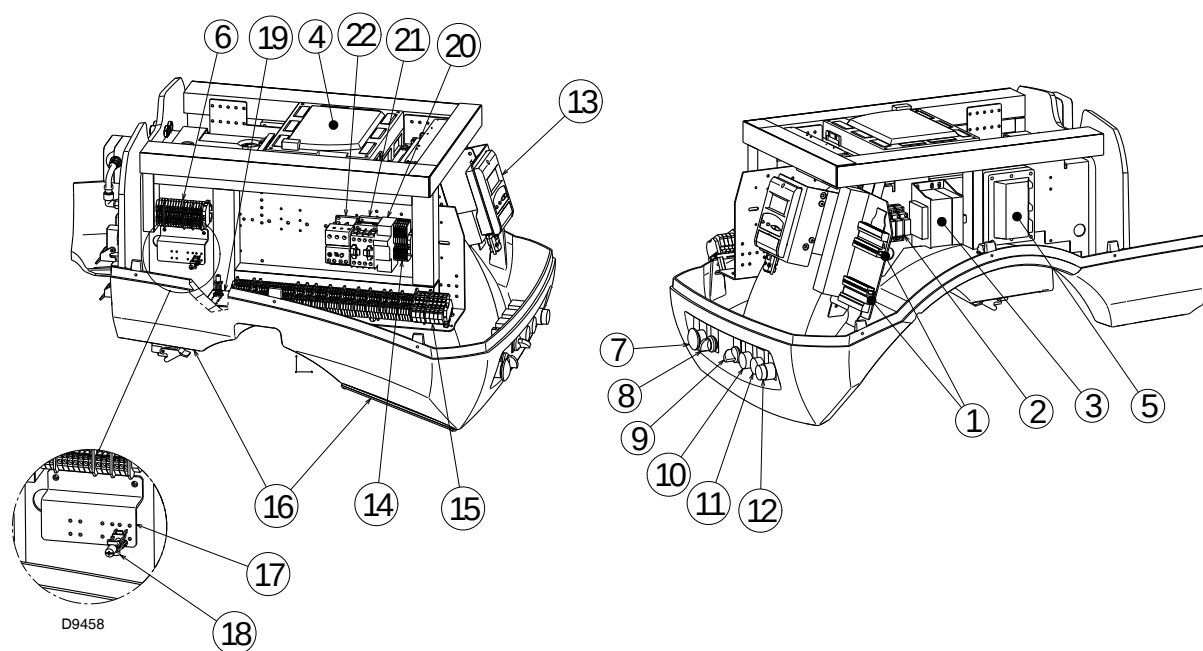

Fig. 6
- **Control box lock-out:** if the control box 12) (Fig. 6) push-button (red led) lights up, it indicates that the burner is in lock-out.
To reset, press the pushbutton 12) (Fig. 6).